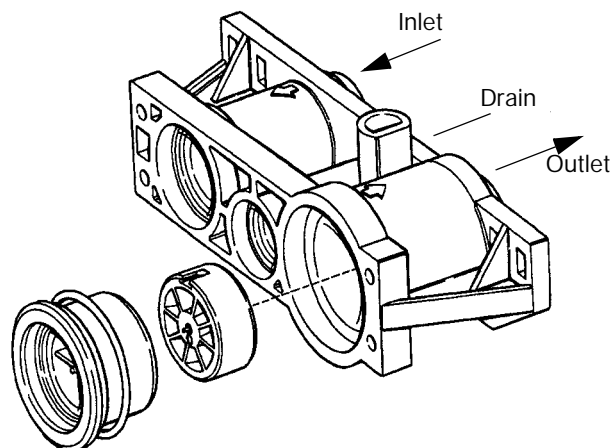

Figure 18
5. Use a needle-nose pliers to grasp one of the four vanes of the gland, Figure 18, and pull straight out to remove the gland from the adapter.